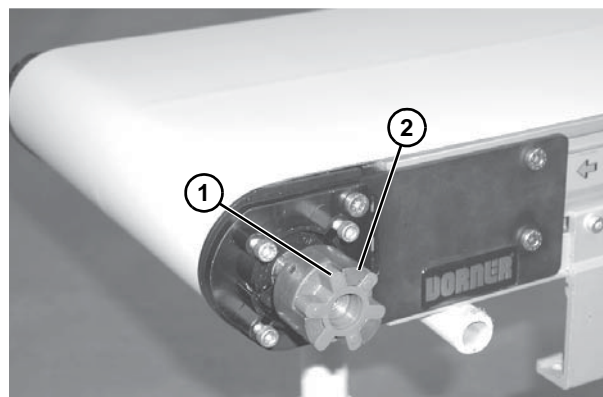

Figure 4
2. Install spider bushing (**Figure 4**, item 1) in three jaw coupling (**Figure 4**, item 2).